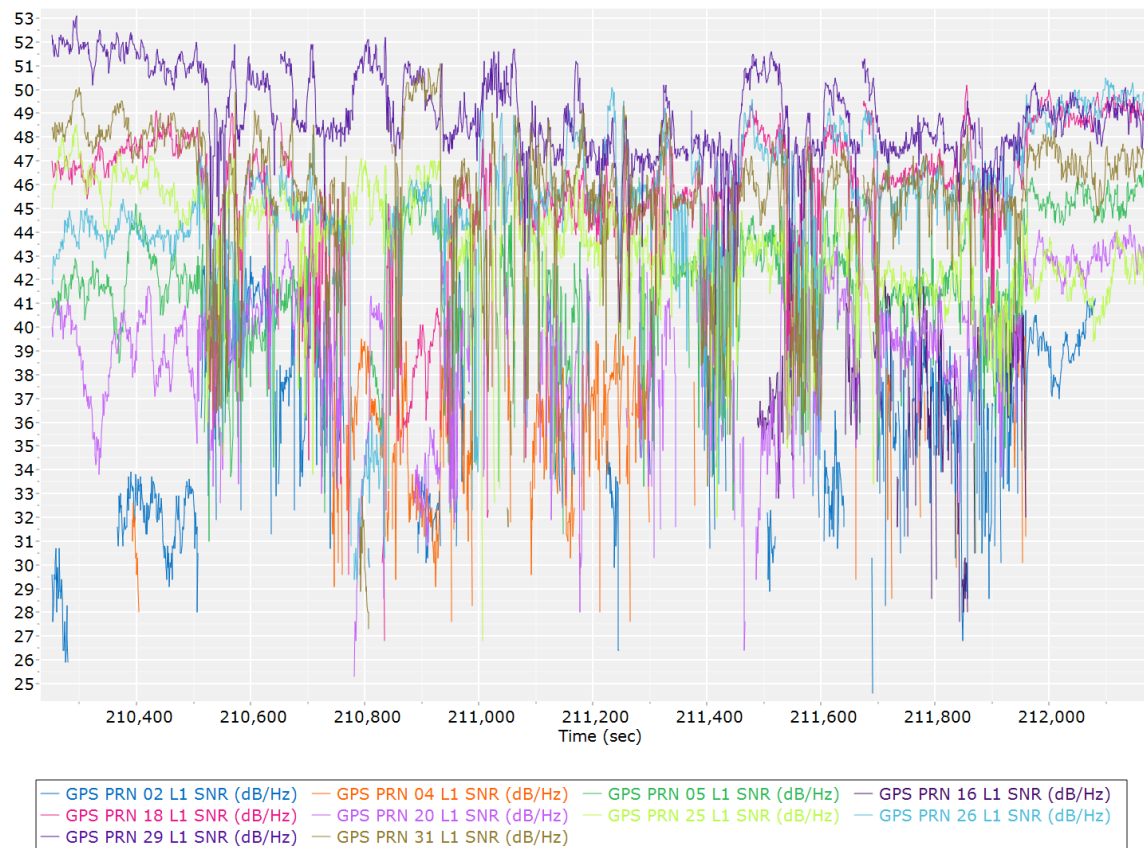

Fig 3: GPS L1 SNR
- *Provides information about GNSS signal quality (Fig 3)*